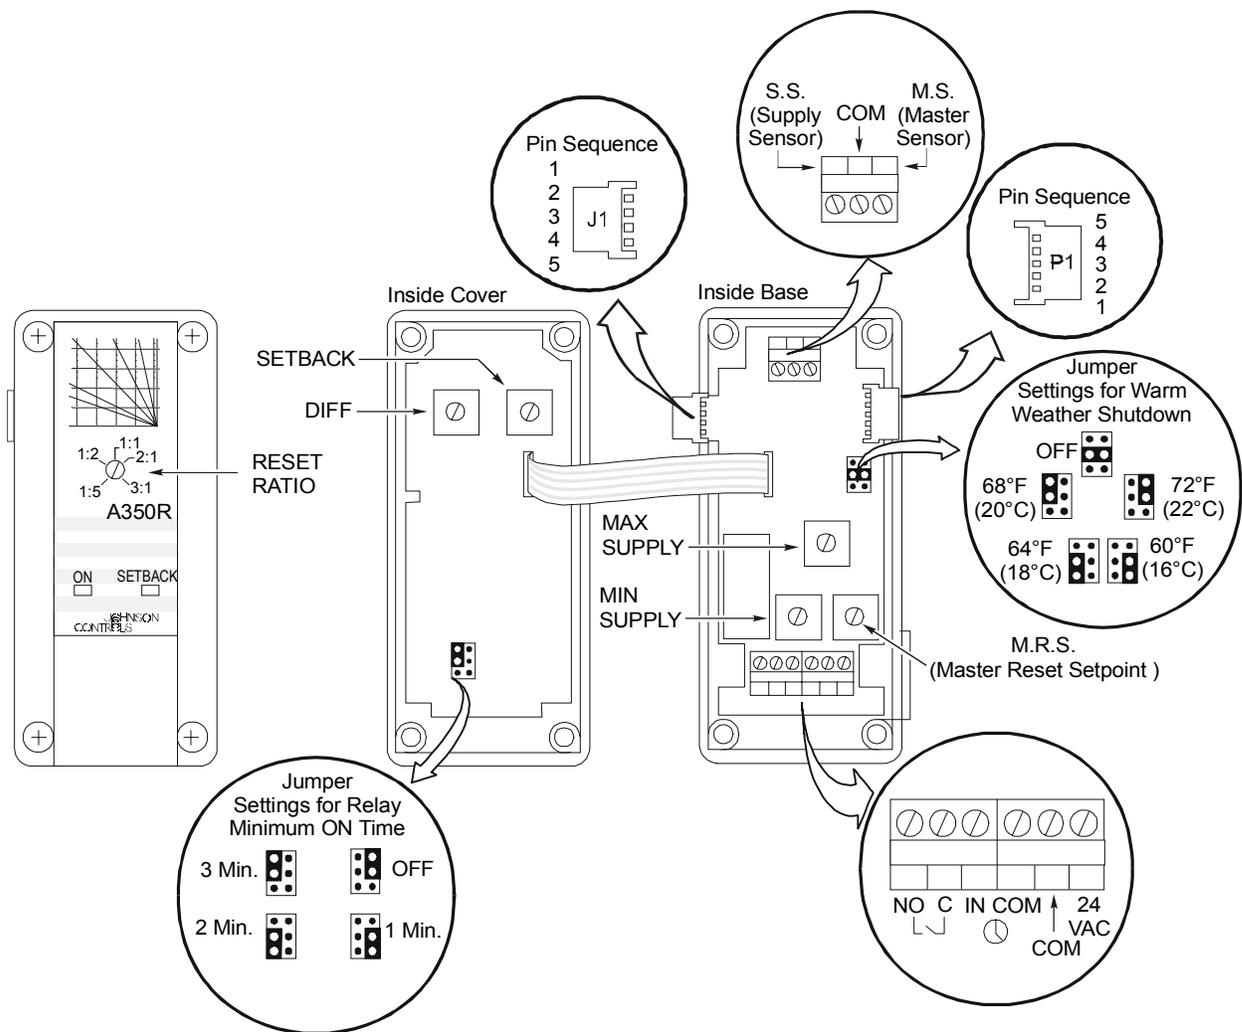

Figure 4: A350R Features
Reset ratio adjustment is made using the potentiometer marked RESET RATIO. Refer to Figure 4 for location.
Minimum supply temperature adjustment is made using the potentiometer marked MIN SUPPLY, and master reset setpoint adjustment is made using the potentiometer marked M.R.S. Refer to Figure 4 for locations.
Maximum supply temperature adjustment is made using the potentiometer marked MAX SUPPLY. Refer to Figure 4 for location.
The differential can be adjusted between 1 and 30F° (0.5 to 17C°). Adjustment is made using the potentiometer marked DIFF, as shown in Figure 4.
In addition to the differential, the relay operation is also affected by the selectable Minimum ON Time delay. Once the relay is energized, it remains energized until both the Minimum ON time has expired, and the supply temperature is equal to or greater than the calculated setpoint. The time delay applies only to the relay internal to the A350R. A jumper block, located on the cover mounted circuit board (refer to Figure 4), is used to select one of four minimum ON time delay settings: OFF, 1 min., 2 min., or 3 min.
A jumper block located on the base-mounted circuit board is used to select one of five shutdown settings. (Refer to Figure 4.) Available settings are OFF, 60°, 64°, 68°, and 72°F (OFF, 16°, 18°, 20°, and 22°C). Placing the jumper block horizontally across the center set of pins (OFF position) disables warm weather shutdown. As shipped from the factory, the warm weather shutdown feature is set to the OFF position.
When enabled, the Setback LED on the face of the A350R illuminates to indicate the control is operating in the setback mode. Setback is adjustable from 0 to 30F° (0 to 17C°) via the setback potentiometer located at the top of the cover-mounted circuit board. See Figure 4 for its location.
Consult Figures 4 and 6 for proper wiring and terminal designations.
The master and supply sensors must be connected to the 3-position terminal block located at the top of the base-mounted circuit board. (Refer to Figures 4 and 6.) The supply sensor connects to the S.S. and COM terminals. The master sensor connects to the COM and M.S. terminals. The sensors are not polarity sensitive.
- Various A99B Series Temperature Sensors and mounting hardware are available for use with A350 Series Controls. Refer to Tables 3 and 5 for further information. The sensors must be connected to the appropriate terminals on the terminal strip located at the top of the printed circuit board. (See Figures 4 and 6.) The sensors are not polarity sensitive.
1. Remove A350R cover by loosening the four captive cover screws. Refer to Figure 4.
- a. Connect a Digital Voltmeter (DVM) between the 24 VAC (+) and COM (-) terminals located at the bottom right side of the A350R (refer to Figure 4).